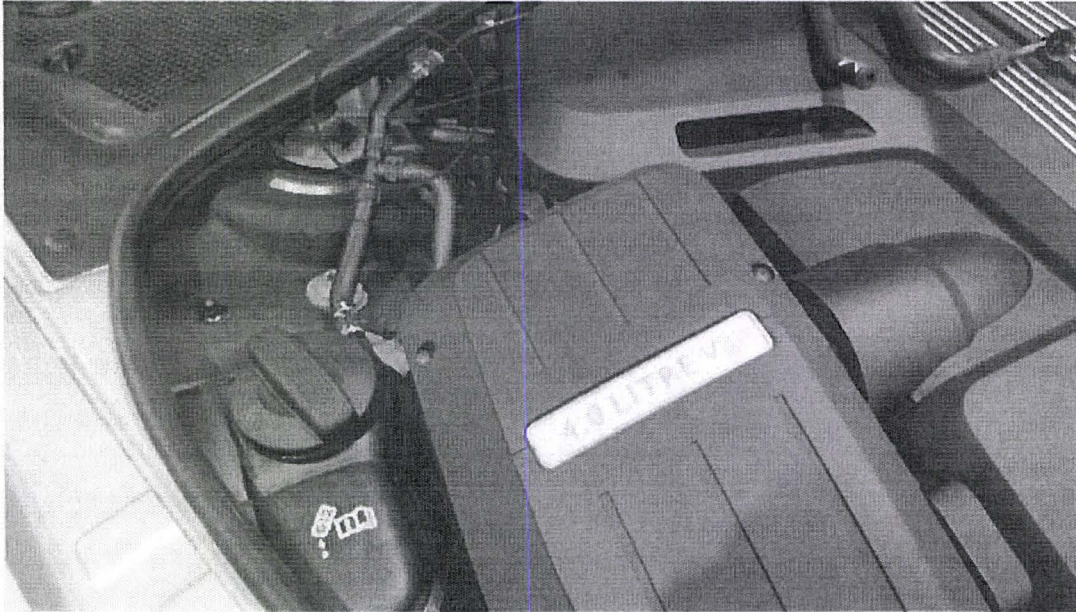

Figure 1
2. Referencing figure 1 locate coolant hose (A) containing the one way valve